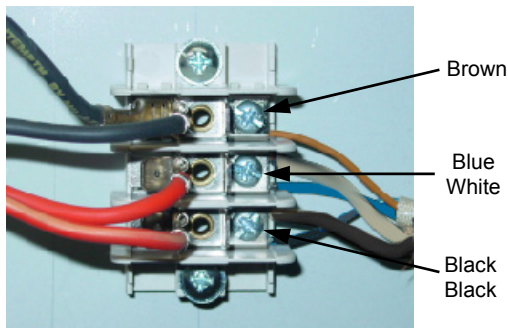

Figure 6.3.13
- 5) Ensure wire connections are correct (fig 6.3.13)